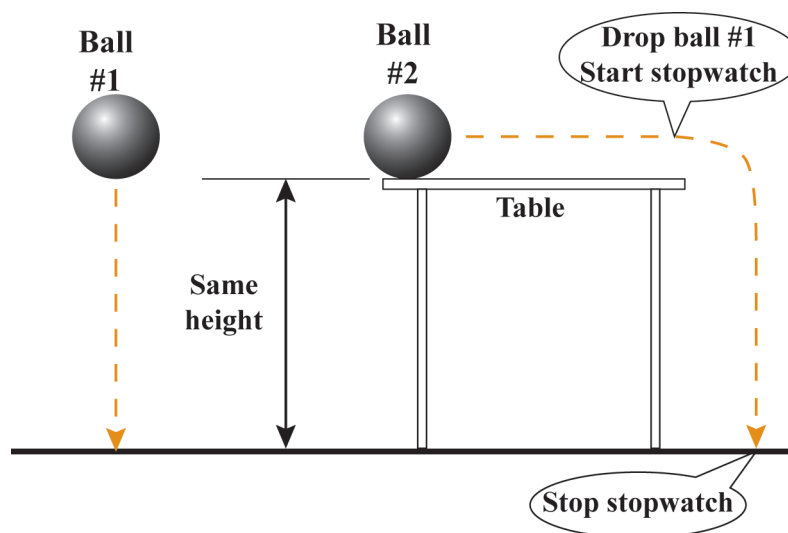

Figure 6
- ❑ 1. Have one person be in charge of rolling a ball off a table. See Figure 6.